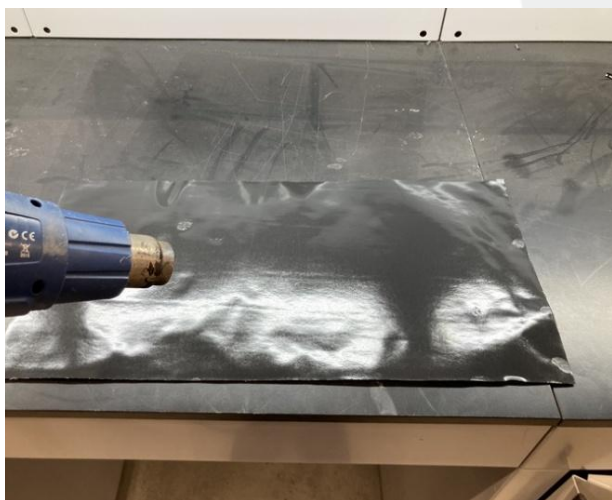

Figure 6
4. Peel off the outer backing, then slightly heat up the butyl patch by moving a heat gun set at 100°C at a distance of at least 5 cm (2 in) from the patch for 20-30 seconds. Do not use excessive heat. Apply the patch to the duct to seal the weld, covering the edge of the intake opening as well. Wet-out the adhesive using a roller (Figure 6).